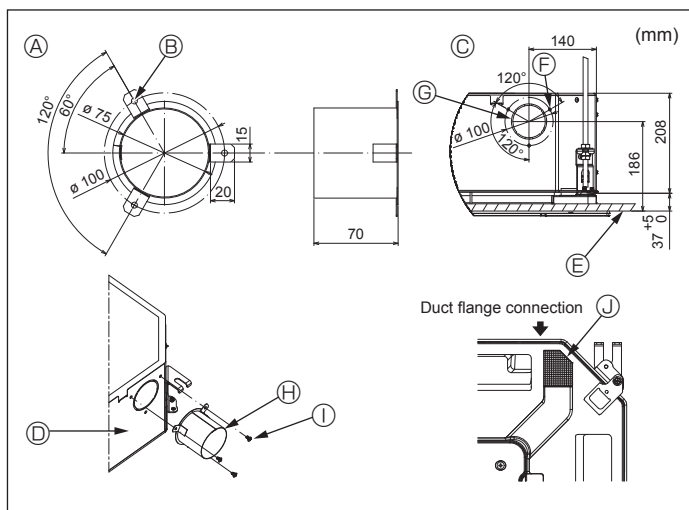

Fig. 2-3
2.3. Installation of duct (in case of fresh air intake) (Fig. 2-3)